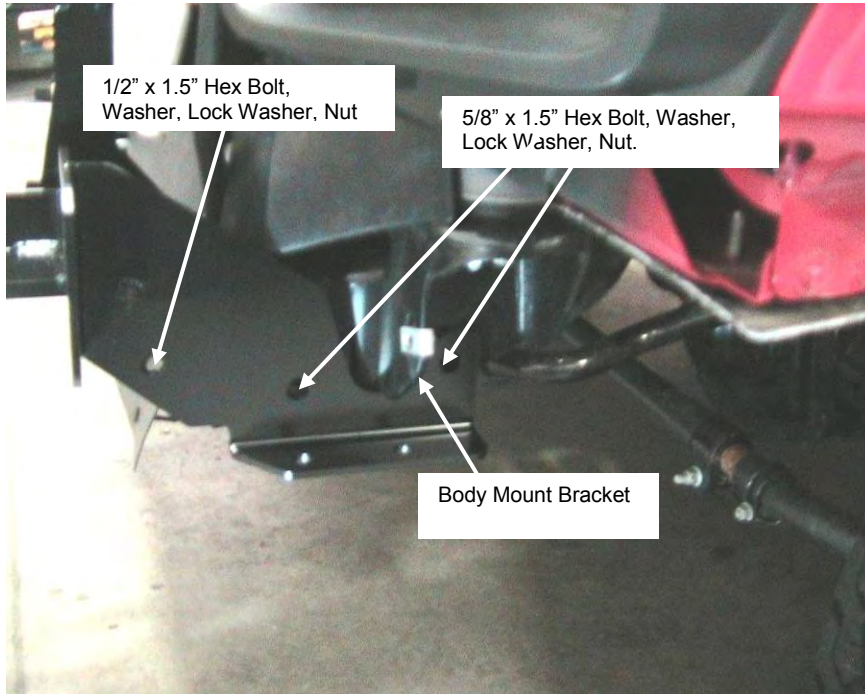
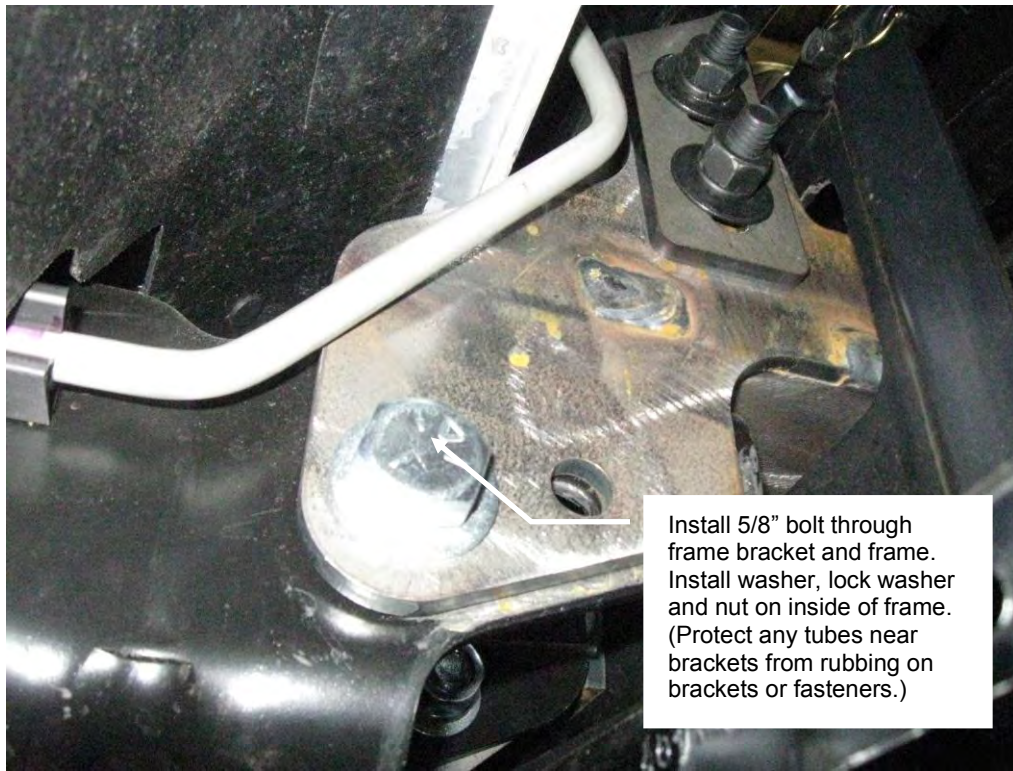

Figure 1: Placement of the Frame Bracket (Driver Side)
Figure 3: Frame Bolt Installation. (Passenger Side shown.)
1. Install the frame bracket on the driver's side frame by setting the bracket on the frame and tilting it back to allow the rear part of the bracket to slide past the body mount bracket. It may be necessary to lightly tap the frame bracket into place. Be very careful not to damage any vehicle parts while installing the brackets. Intercoolers and hoses are close to the brackets so care should be taken not to damage, kink, or cut the hoses during installation. Once the frame bracket is in place and holes are lined up with the holes in the frame, repeat for passenger's side frame. (See figure 1.)
2. Install fasteners as shown in **Figure 1, 2 and 3**. Do not tighten any fasteners until instructed to do so.
3. Install all of the fasteners as shown in **Figure 1** through **Figure 3** for both sides of the vehicle frame. Torque all of the fasteners to their specified rating.